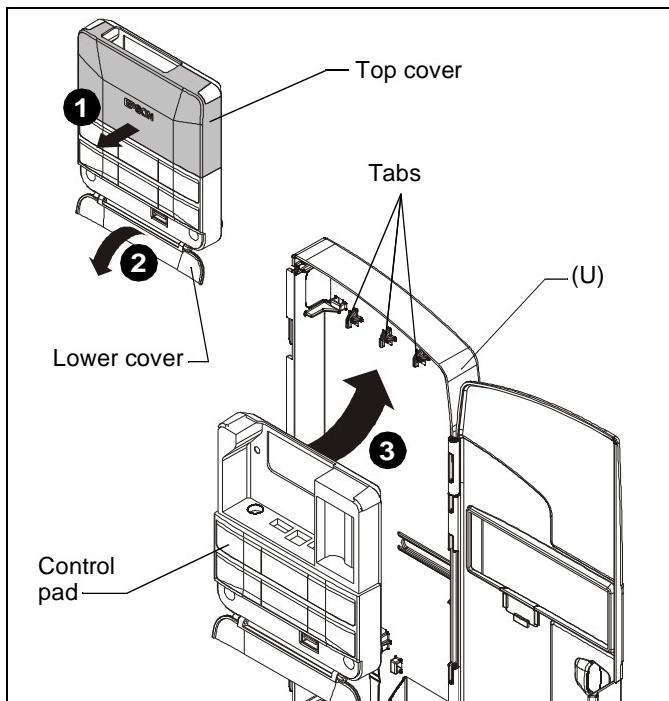

Figure 11
1. Remove top cover from control pad. (See Figure 11)
2. Open lower cover on control pad. (See Figure 11)
3. Insert control pad into control housing (U) by sliding it up under tabs inside housing. (See Figure 11)